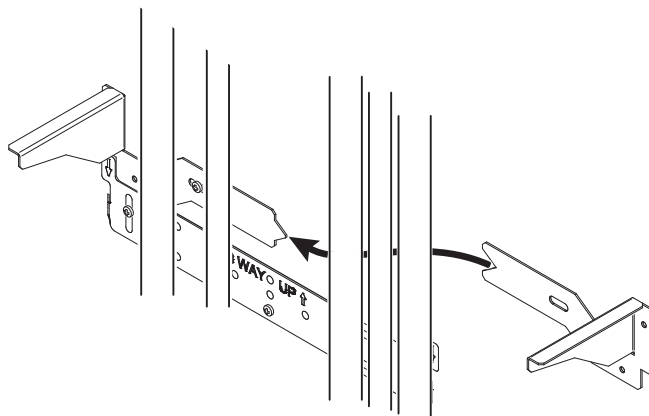

Fig. 8
**NOTE:** Where the installation has been "pre-plumbed" with pipework rising vertically the two piece mounting bracket can be inserted from both sides of the pipe runs (Fig. 8).